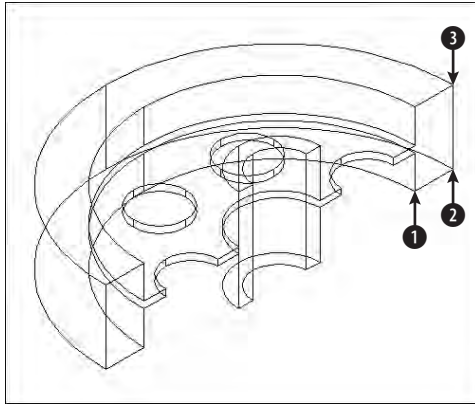

Figure 24-25: This 3D model was sliced and can now be mirrored.
1. If you have `ab24-04.dwg` open from the previous exercise, use it. Do a regen to remove the hidden view. If you don't have it open, open it from your AutoCAD Bible folder or from the **Results** folder of the *AutoCAD 2004 Bible* CD-ROM. Make sure OSNAP is on and set a running object snap for endpoint. If you don't have the Solids Editing toolbar open, right-click any toolbar and choose Solids Editing from the toolbar list. The drawing is shown in Figure 24-25.
Specify first point of mirror plane (3 points) or [Object/Last/Zaxis/View/XY/YZ/ZX/3points] <3points>: *Pick ① in Figure 24-25.*